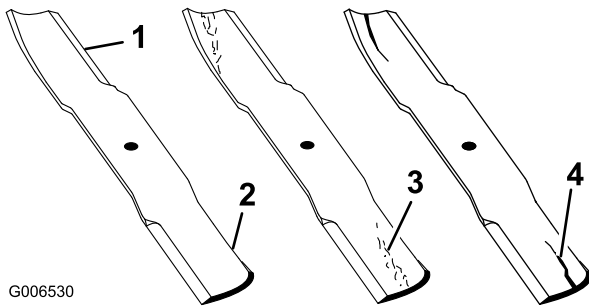

Figure 54
1. Inspect the cutting edges (Figure 54).
2. Inspect the blades, especially the curved area (Figure 54).
Note: If you notice any damage, wear, or a slot forming in this area (Figure 54), immediately install a new blade.